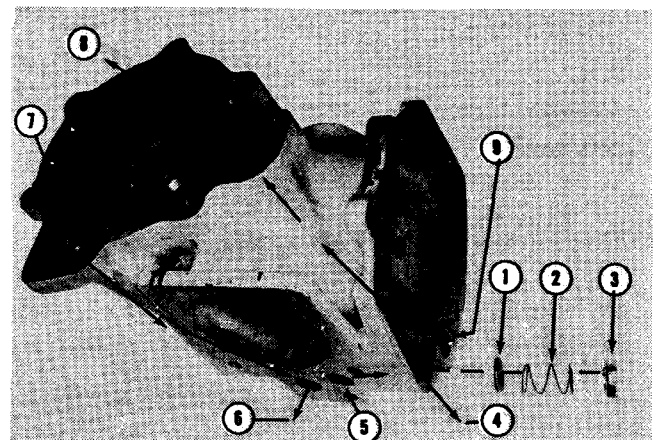

Fig. 7-4, (N10735). Anti-drain back valve and support assembly with flow diagram
1. Install filter-cooler housing in vise or press. Using screwdriver or small bar, remove spring seat (3, Fig. 7-4) from filter-cooler support housing.
1. Install disc (1, Fig. 7-4) on seat in housing, coated surface toward seat.
2. Position spring (2) on metal surface of disc.
3. Press or drive spring seat (3) into housing, cupped portion of spring seat is installed away from spring, to a depth of 0.265 to 0.285 inch [6.75 to 7.25 mm].